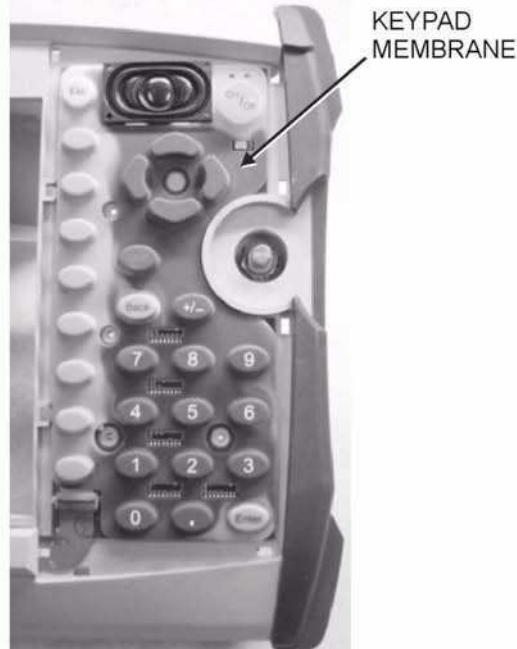

Figure 5-10. Keypad Membrane
- Remove the keypad membrane by carefully lifting the speaker and pulling the membrane off of the keypad PCB (Figure 5-10).